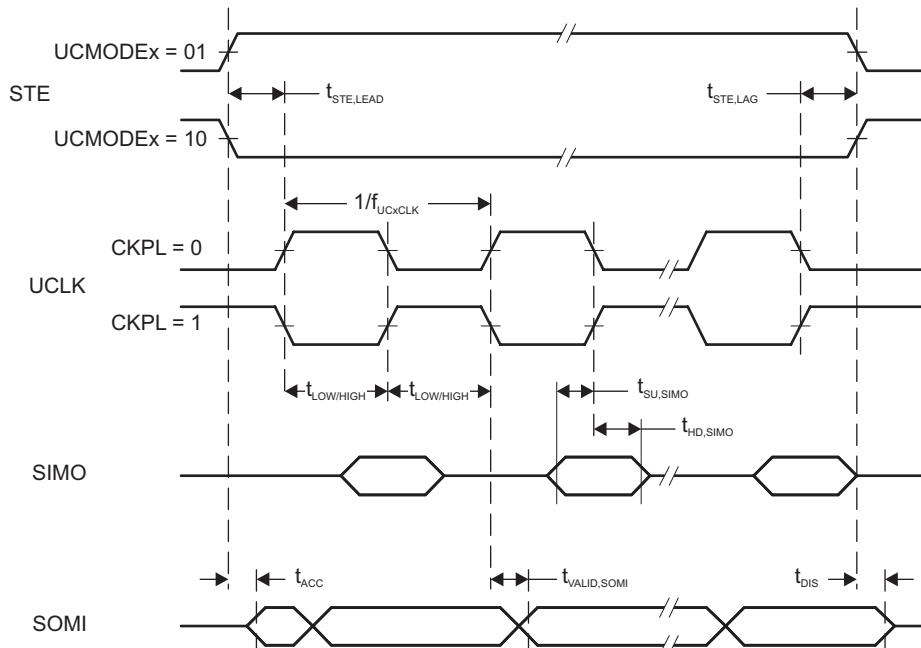
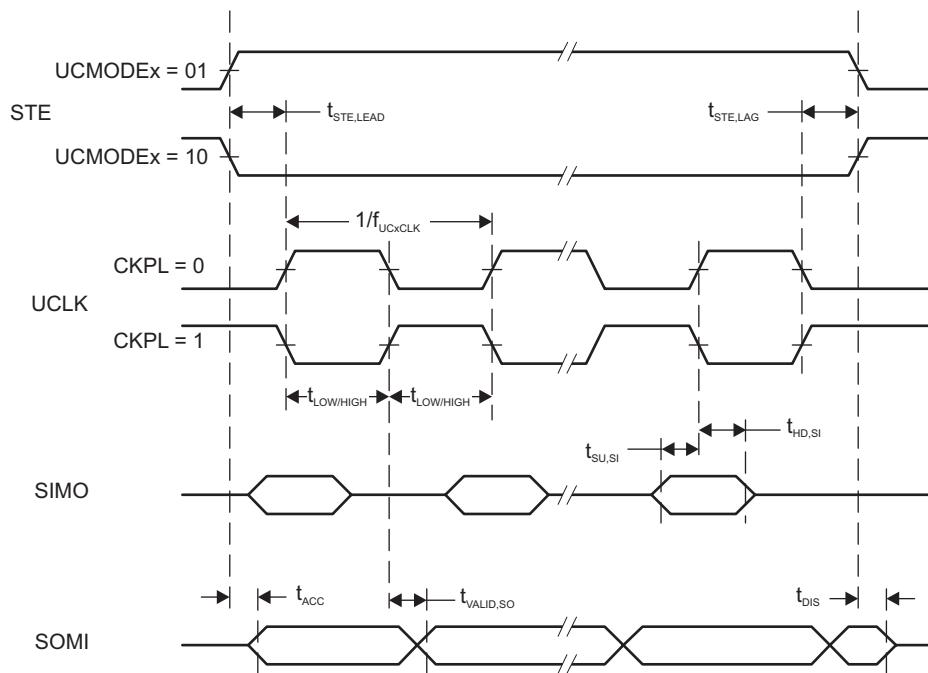

Figure 5-15. SPI Slave Mode, CKPH = 0
Figure 5-16. SPI Slave Mode, CKPH = 1
(3) Specifies how long data on the SOMI output is valid after the output changing UCLK clock edge. Refer to the timing diagrams in Figure 5-15 and Figure 5-16.